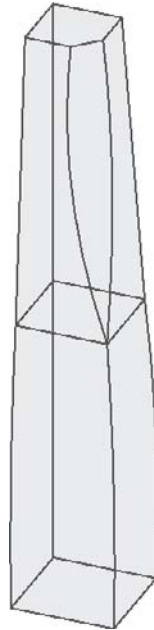

Figure 7.27
7. Choose Finish Mass from the In-Place Editor panel to complete the loft form (Figure 7.27).